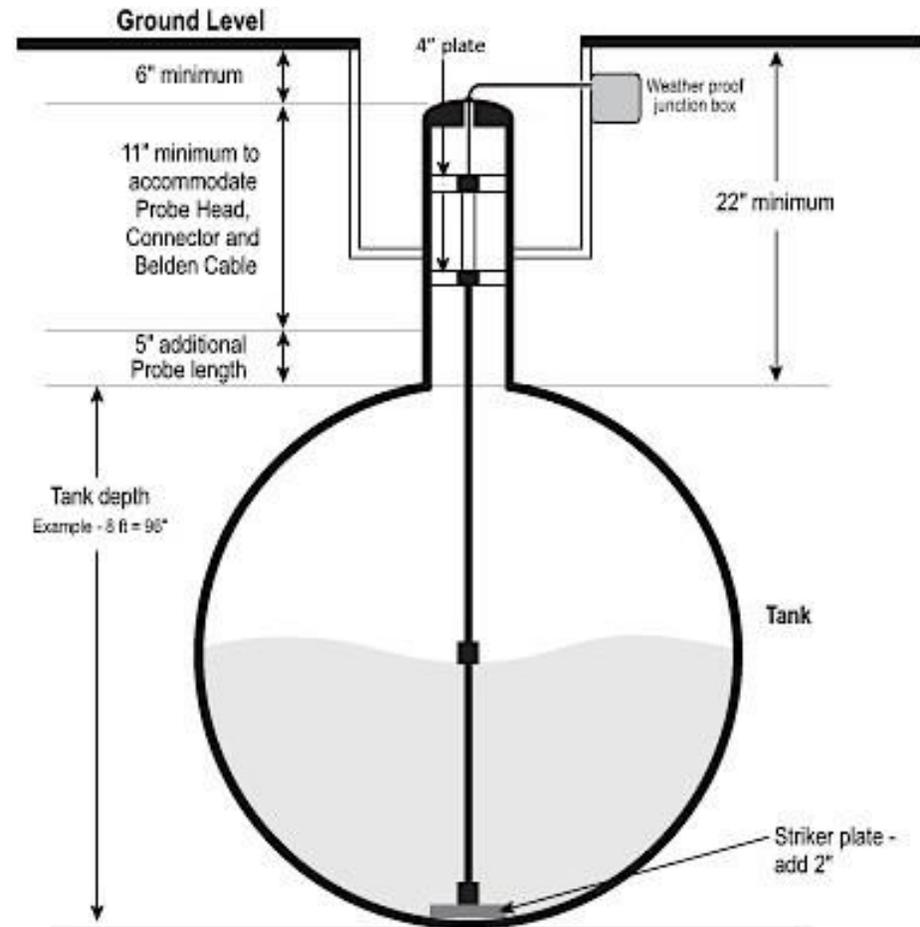

Figure 3-2 Probe Installation in an Underground Tank
1. Refer to Figure 3-2. Install a manhole of at least 18 inches (45.7 cm) diameter around an unused fitting in the top of the tank. This manhole must be large enough to accommodate a weatherproof junction box.